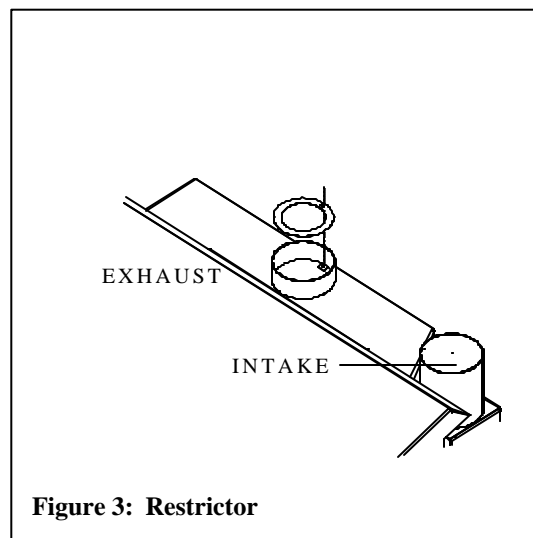
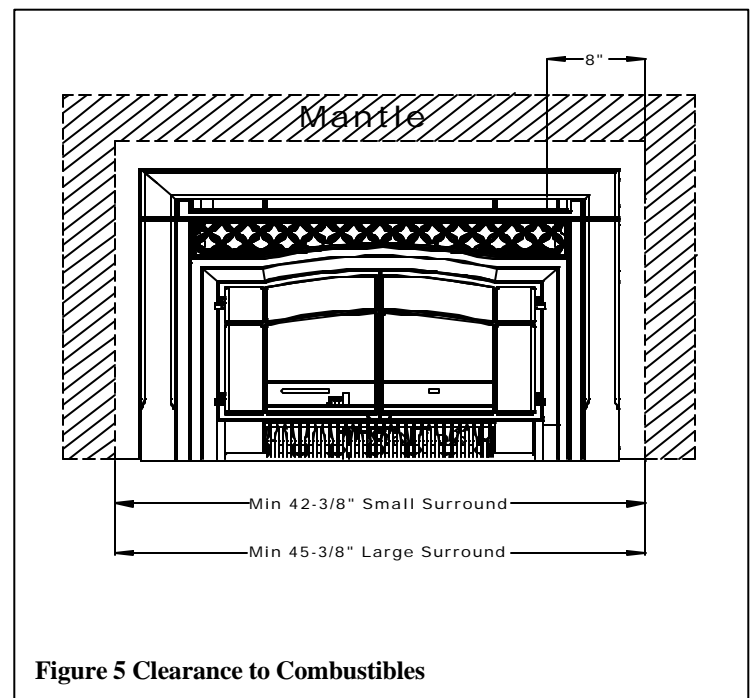

Figure 3: Restrictor
Figure 5 Clearance to Combustibles
Your Killington has been supplied with a restrictor disc. This disc will provide excellent restriction for vertical vent runs exceeding 20 feet. If your vertical rise is less than 20 feet, do not use the restrictor. See Figure 3.
- Repeat this process to the top outer edge of both the intake and exhaust collars on the back of the unit. The exhaust adaptor is the collar nearest the center of the unit, the intake adaptor collar is on the right side of the stove (refer to Figure 1, on page 5 & Figure 5 on page 8). Install the restrictor if necessary (refer to Figure 3 on page 7). Slide a hose clamp over the ends of both flexible vent pipes. Place the flexible vent pipe marked "intake" onto the intake collar, place the flexible vent pipe marked "exhaust" onto the exhaust collar. Secure them to the collar adaptors by tightening the hose clamps with a slotted screwdriver or 5/16" nut driver.